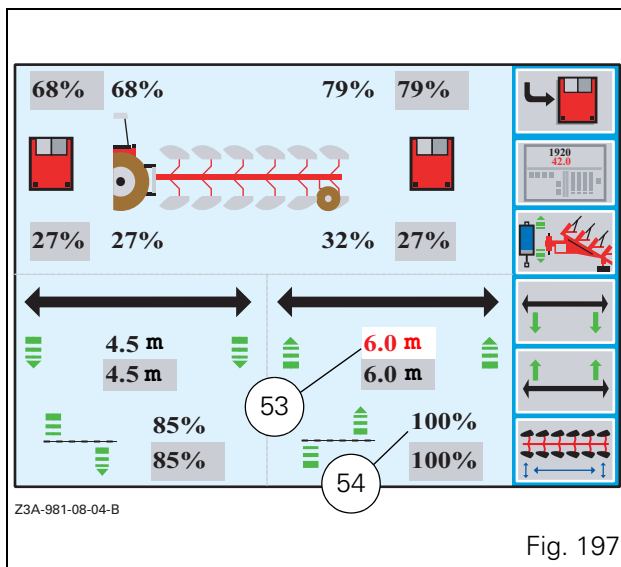

Fig. 197
- Press the key «5 when the window (Fig. 197) is open. The furrow end length is displayed in red (53 Fig. 197).
- Adjust the length by rotating the encoder and validate by pressing the latter. The value is displayed in black and the furrow end depth wheel partial lifting value is displayed in red (54 Fig. 197).
NOTE: To set the plough depth wheel furrow end partial lifting value, first define the furrow end length (53 Fig. 197).
- When the depth wheel partial lifting value is displayed in red (54 Fig. 197), adjust it by rotating the encoder.
- For this, press the key \ll_2 when the window (Fig. 197) is open. The window (Fig. 199) is displayed.
To return to the window (Fig. 197), press the key \ll_5 when the window (Fig. 200) is open and the icon (57 Fig. 200) is green.